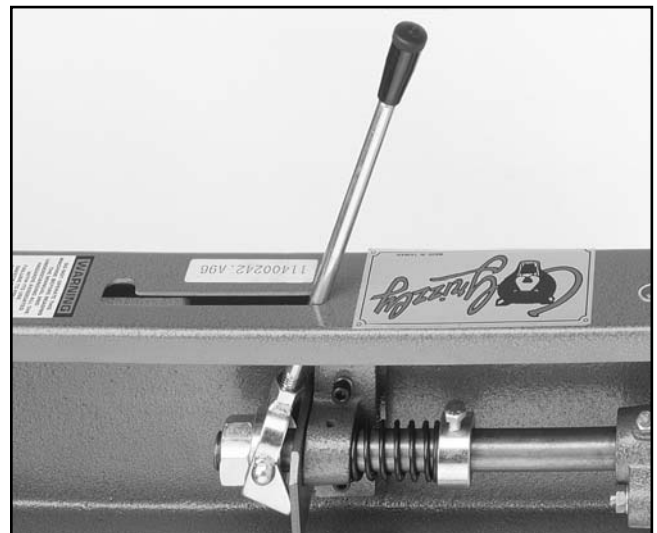

Figure 13. Installing the quick release lever.
2. Slide the quick release lever through the slot on the top of the platen cover. Thread it into place until it bottoms out. **See Figure 13.** It may be necessary to have an assistant push the idler roller back into the machine to allow the quick release lever to line up with the thread in the yoke.